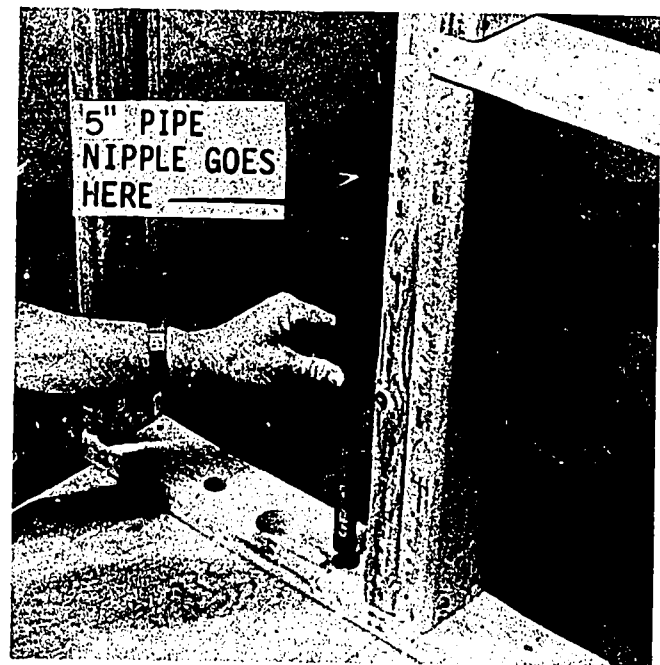

Fig. 50-12. Inserting Pipe Length Through Pipe Hole in Sole Plate
12. Push the threaded end of the 14" pipe through the hole until it lines up with the elbow under the floor. See Fig. 50-12.